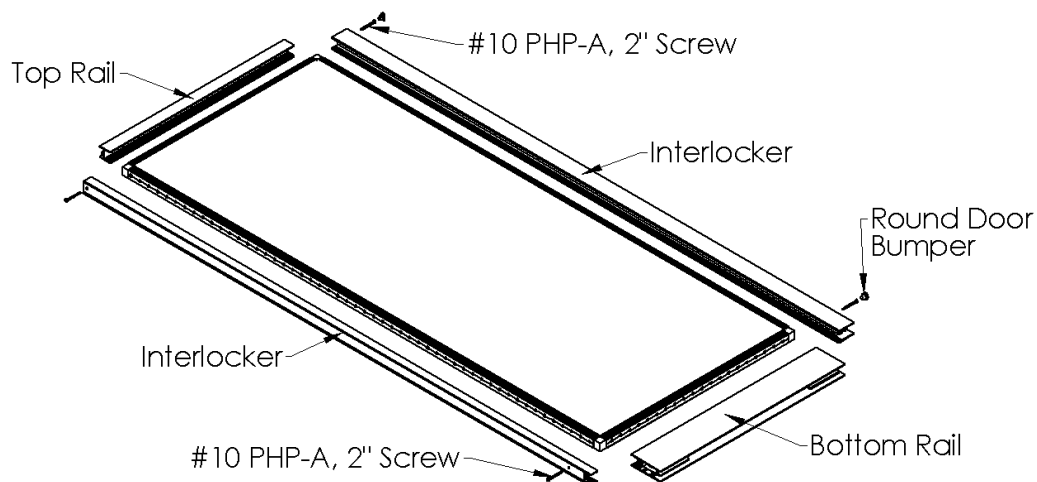

Figure 13:
4. Secure the stiles to the rails with (4) #10 x 2" pan head screws. Add wax to the ends of all fasteners to reduce the drive torque required for installation.
5. Insert vinyl plugs at top and bottom of stiles (Figure 13).